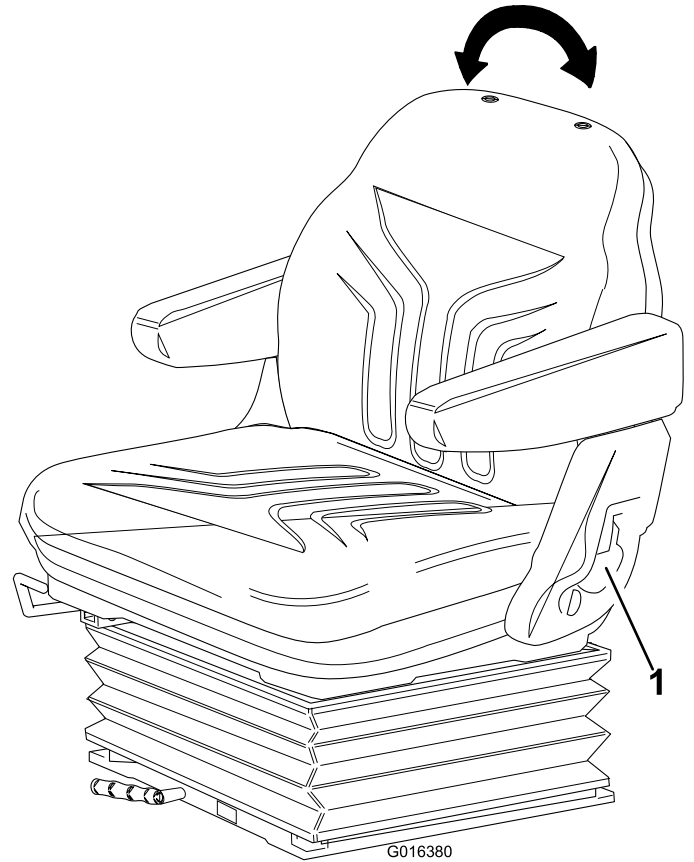

Figure 14
- **Backrest adjustment:** Pull the handle outward to adjust the seat backrest angle. Release the handle to lock the seat backrest in position (Figure 14).